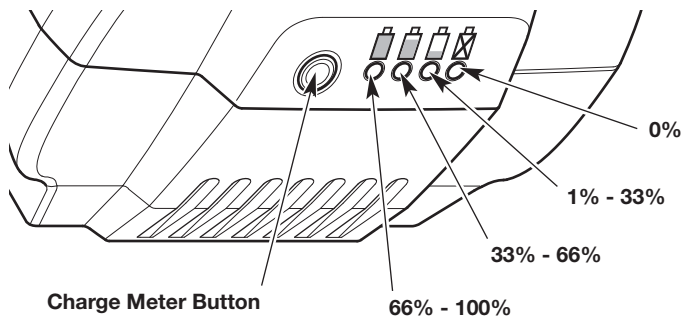

Fig. 13
1. Press the charge meter button (Fig. 13).
2. One or more of the charge meter lights should illuminate (Fig. 13). The number and color of the lights will indicate the current battery charge level: